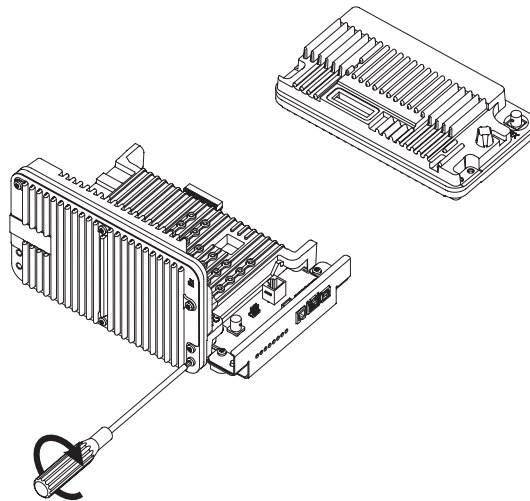

Figure 10-4 Putting together new SCM, Exciter and Receiver
5. Secure the new Station Control Module (SCM), Exciter and Receiver Modules using the eight screws (Refer to Figure 10-4) supplied with the MTR2000 MOTOTRBO Digital Upgrade kit to form the new Transceiver Assembly.